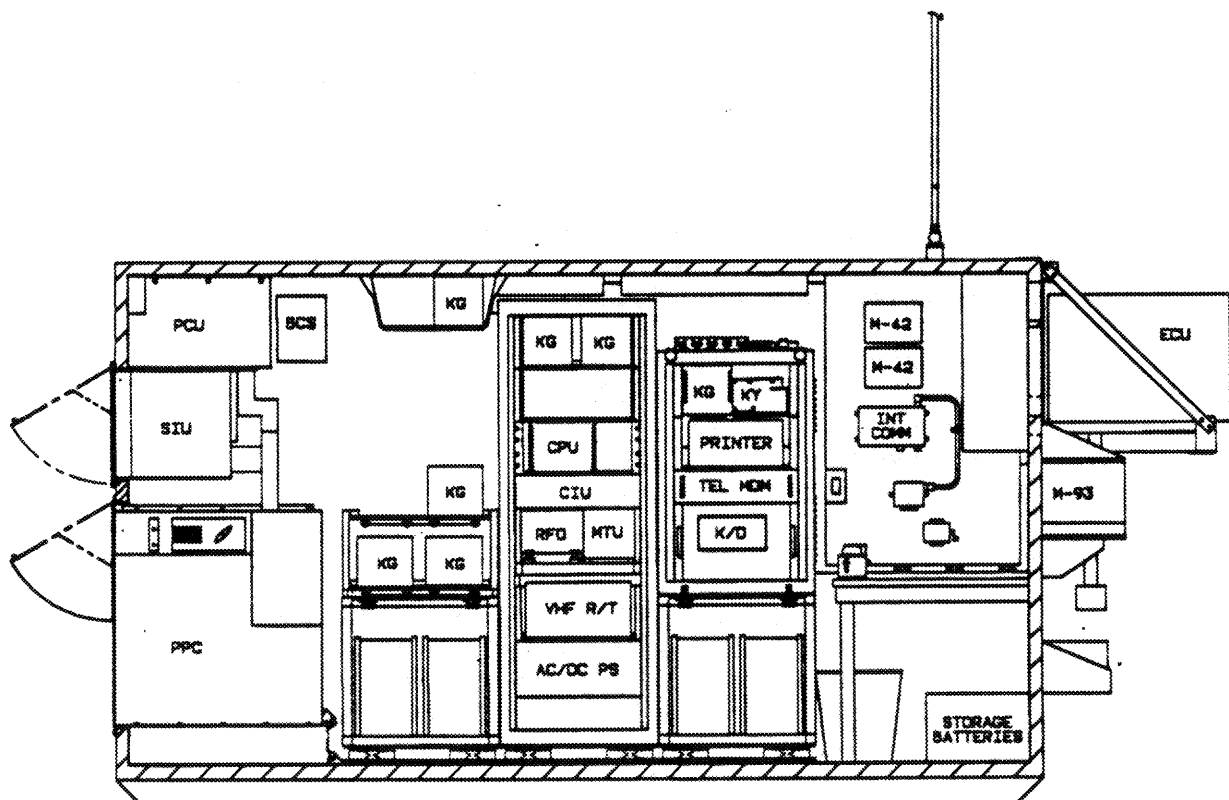

Figure 3-1. Split Site Transmit Station
b. The Force Terminal is reconfigured as follows (see Figure 3-1):